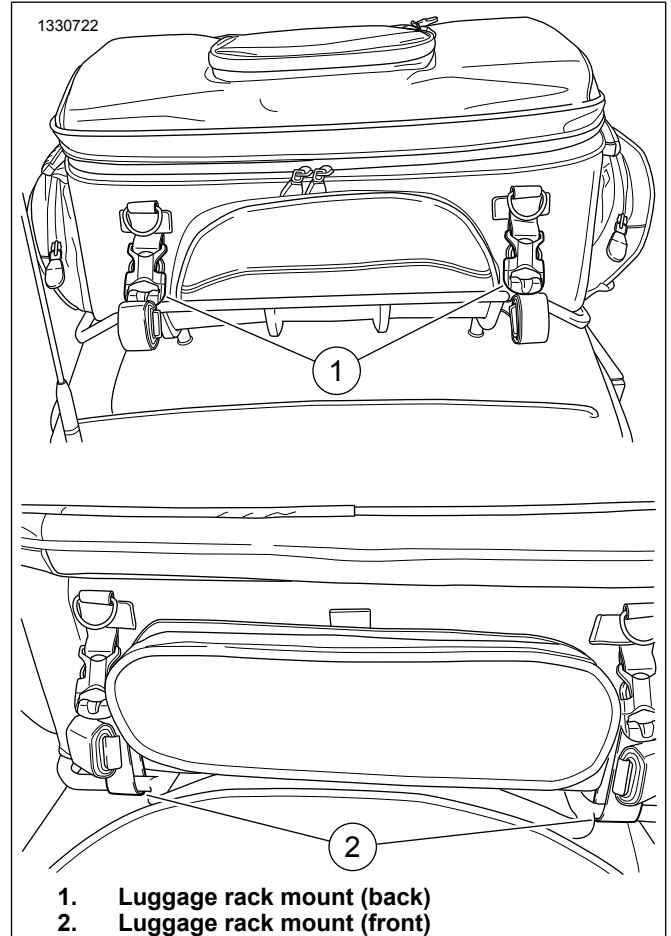
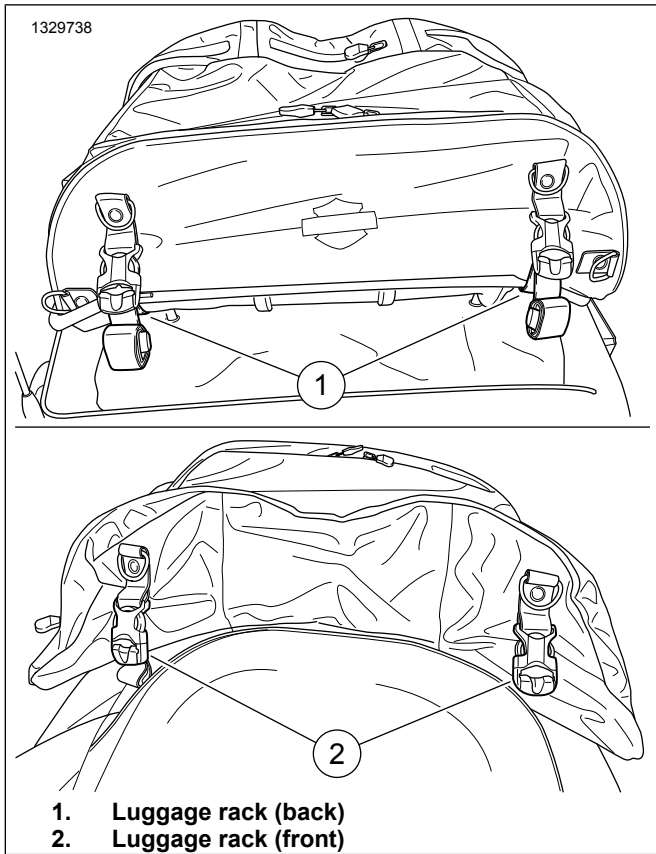

Figure 6. T-Pak Bag
Figure 7. T-Pak Collapsible Bag
- a. See Figure 6 or Figure 7. Secure four straps with quick-release buckles to luggage rack.
1. Figure 6 Position bag on luggage rack.
1. Figure 7 Position bag on luggage rack.